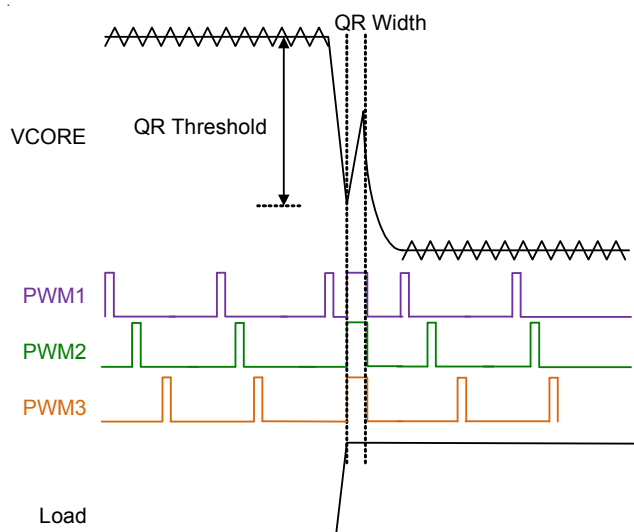
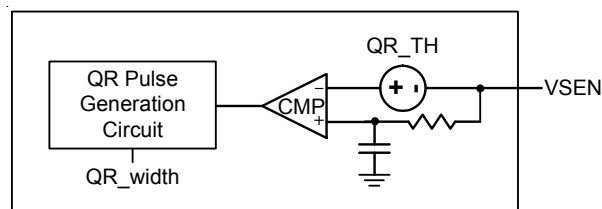

Figure 22. Quick Response Mechanism
Figure 23. Simplified QR Trigger Schematic
When the transient load step-up becomes quite large, it is difficult for loop response to meet the energy transfer. Hence, that output voltage generate undershoot to fail specification. The RT3606BC has Quick Response (QR) mechanism being able to improve this issue. It adopts a nonlinear control mechanism which can disable interleaving function and simultaneously turn on all UGATE one pulse at instantaneous step-up transient load to restrain the output voltage drooping, Figure 22 shows the QR behavior.
The output voltage signal behavior needs to be detected so that QR mechanism can be triggered. The output voltage signal is via a remote sense line to connect at VSEN pin that is shown in Figure 23. The QR mechanism needs to set QR width and QR threshold. Both definitions are shown in Figure 22. A proper QR mechanism set can meet different applications. SET2 can set QR threshold and QR width by internal current source 80μA with multi-function pin setting mechanism.